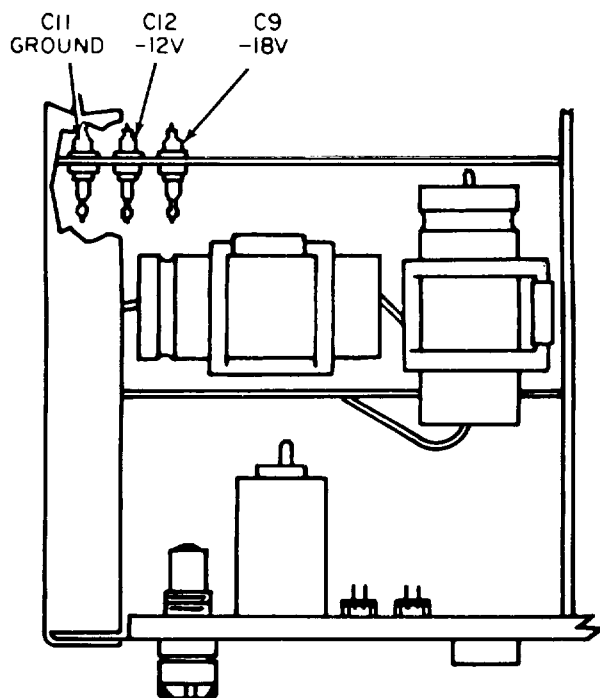

Fig. 5-2. Regulated supply measuring points
- (1) Measure the output of the -18 V and -12 V regulated supplies at the points illustrated in Fig. 5-2..